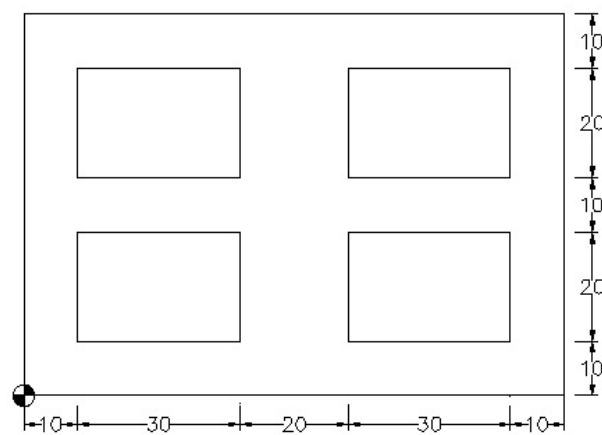

Figure 6 [Q:5(a) OR]
- Q.5** (a) With help of subroutine function, write a part program for component shown in figure:6 **07**